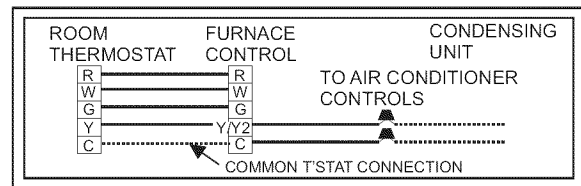

FIGURE 19: Single Stage Heat Thermostat Connections
3. The furnace's control system requires correct polarity of the power supply and a proper ground connection. Refer to Figure 19.
Install the field-supplied thermostat by following the instructions that come with the thermostat. With the thermostat set in the OFF position and the main electrical source disconnected, connect the thermostat wiring from the wiring connections on the thermostat to the terminal board on the ignition module, as shown in Figure 19. Electronic thermostats may require the common wire to be connected as shown with the dashed line in Figure 19. Apply strain relief to thermostat wires passing through cabinet. If air conditioning equipment is installed, use thermostat wiring to connect the Y and C terminals on the furnace control board to the yellow and brown wires on the condensing unit (unit outside). Refer to Figure 19.